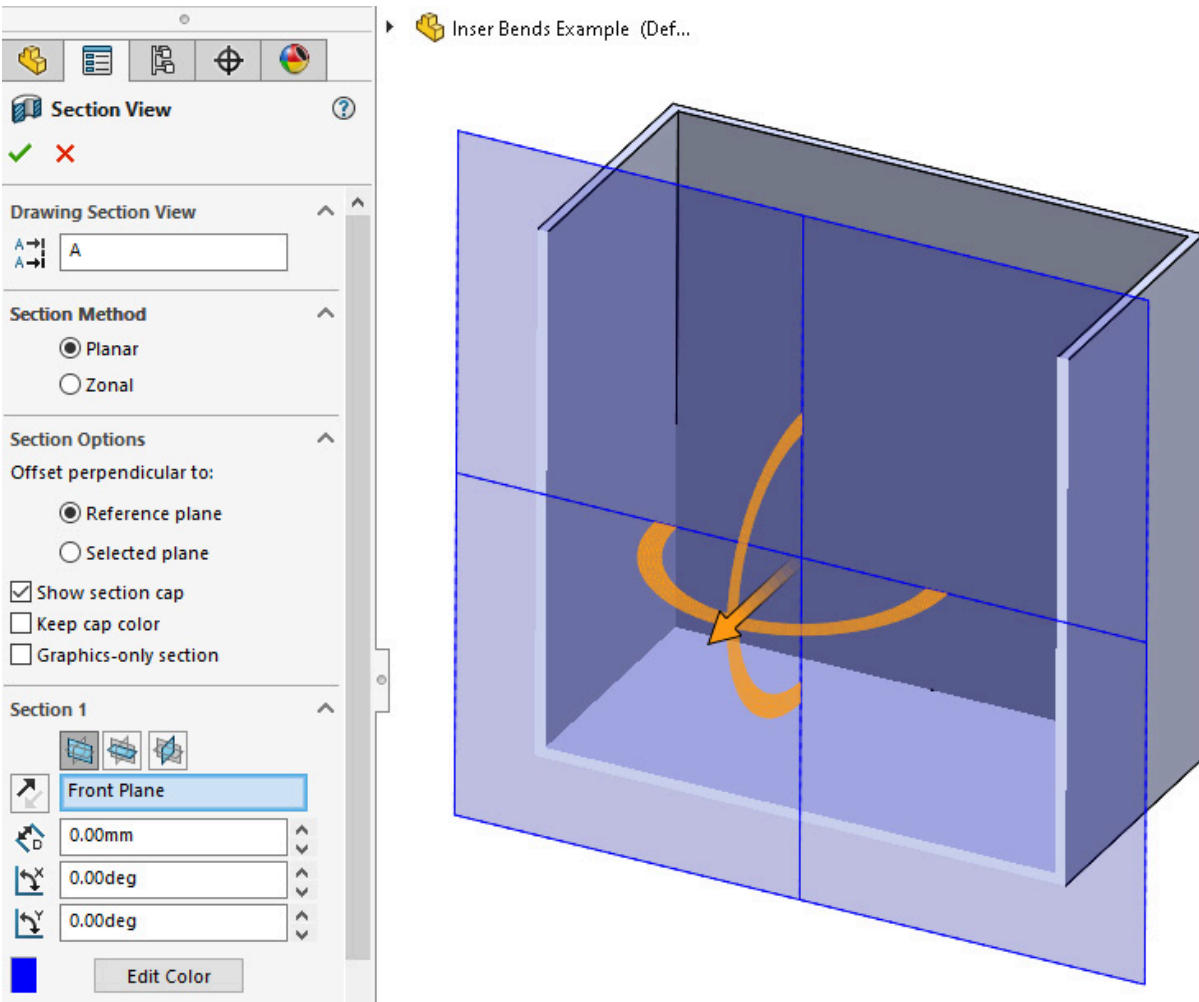

Figure 11.2: The cube has a constant wall thickness
3. Now, if we go to a **Section View** we can see that the cube has a constant 2 mm wall thickness all the way around (Figure 11.2). This makes it ideal for converting to Sheet Metal by using the **Insert Bends** feature.